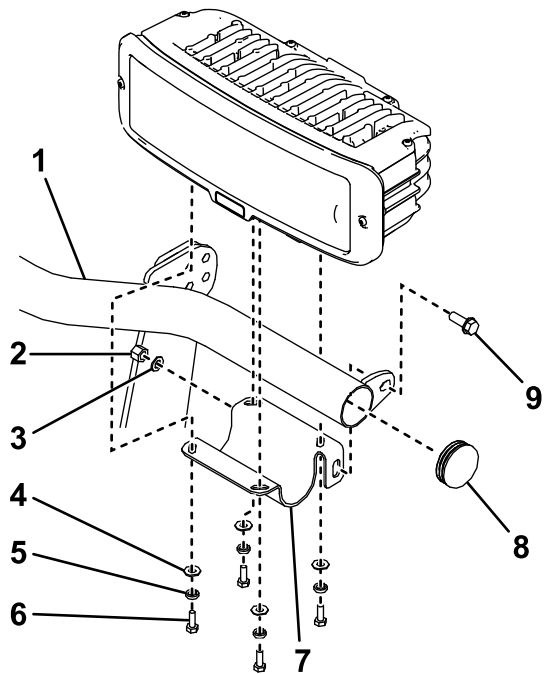

Figure 13
- Ensure that the end caps are installed on the ends of the light bar (Figure 13).
- Secure the left headlight-bracket to the light bar using a flange-head bolt (3/8 x 1 inch), a flat washer, and a nylon locknut (Figure 13).
- Secure the left headlight to the headlight bracket using 4 bolts (1/4 inch), split lock washers, and flat washers (Figure 13).